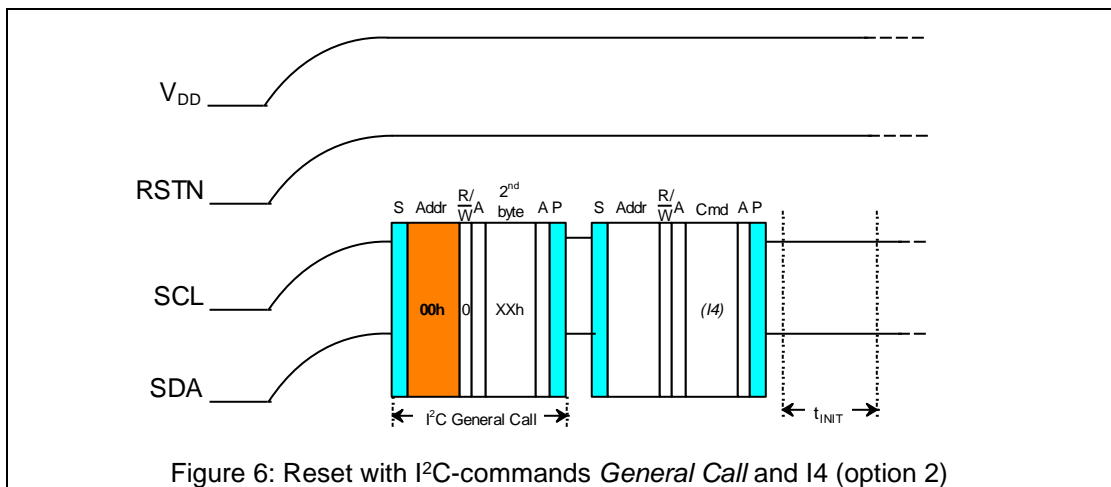

Figure 6: Reset with I²C-commands *General Call* and I4 (option 2)
2. Send a *General Call* I²C command¹ (I²C-address 00h) (Figure 6).